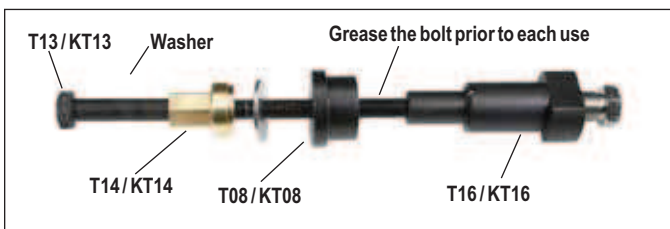

FIGURE 76 - LONG GUIDE PIN BUSHING INSTALLATION AND DIMPLING TOOL
5.6.19 Place the washer and thread the brass nut (T14) on to the bolt (T13) followed by the flange (T08). See *Figure 76*.